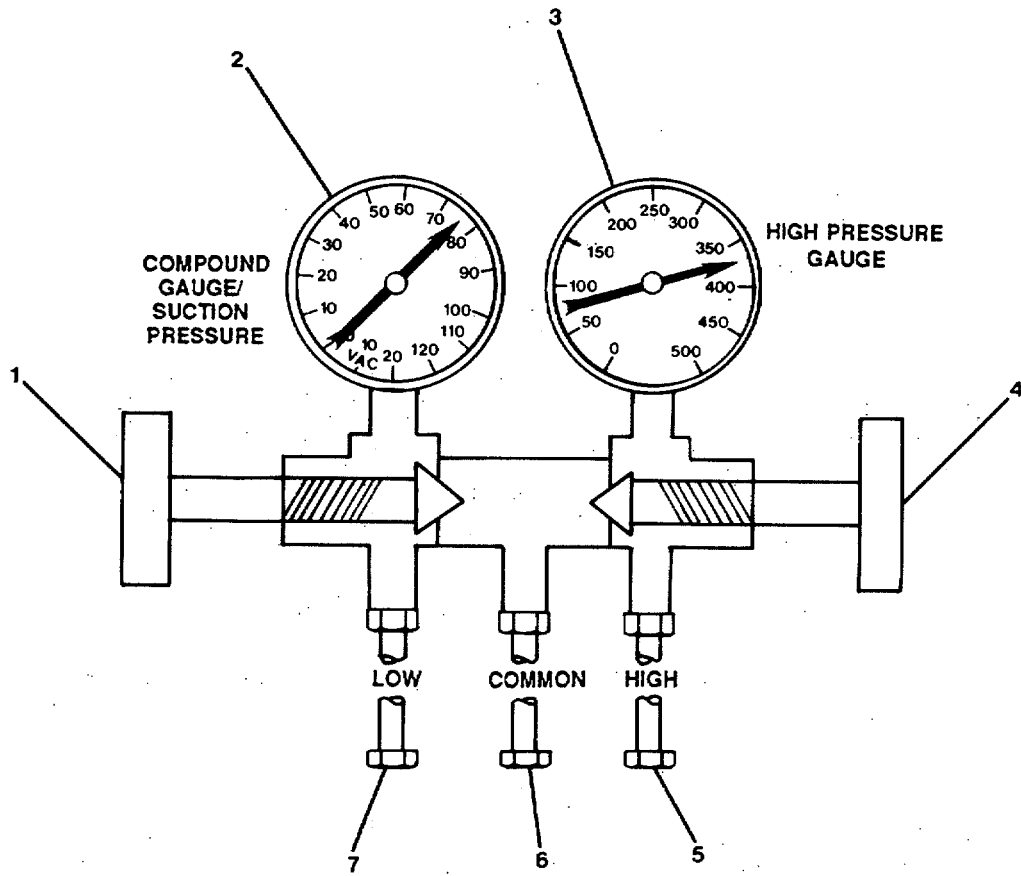
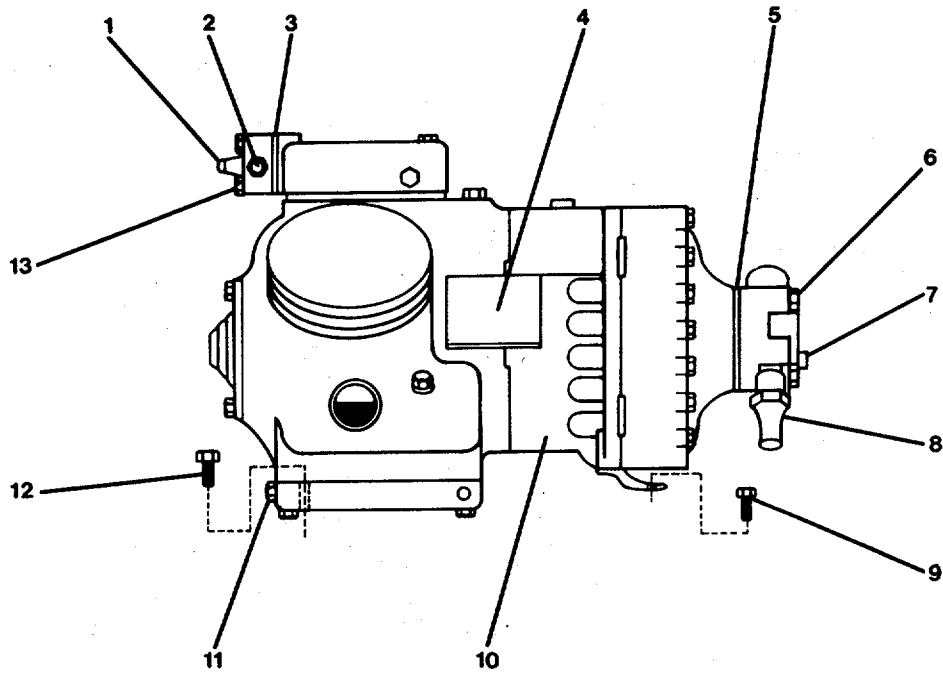
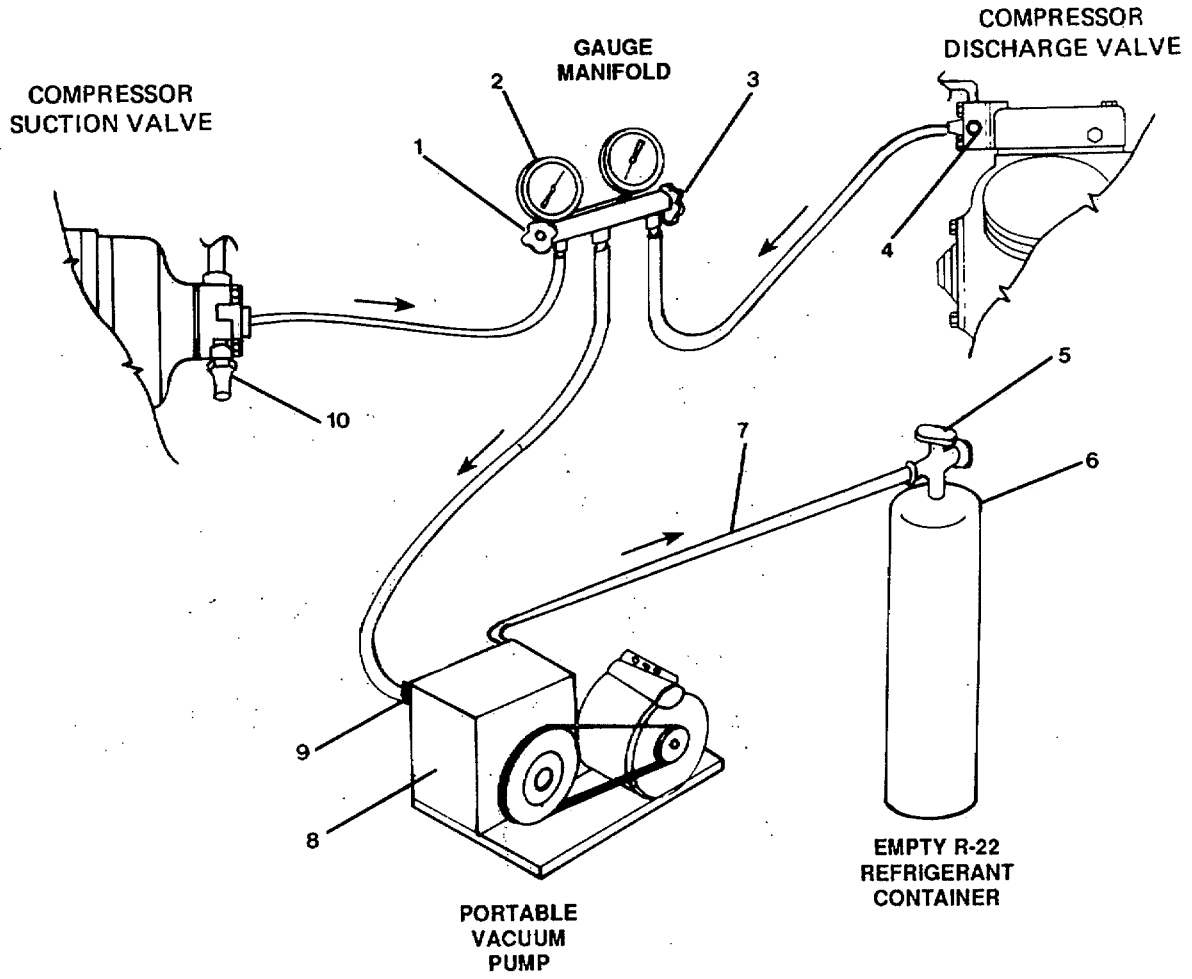

Figure 4-16. Portable Gauge Manifold.
FIGURE 4-17. Refrigeration Compressor.
Figure 4-18. *Removing Refrigerant Charge From Compressor.*
- (1) Connect a portable gauge manifold from the refrigeration tool kit to the compressor as follows (refer to FIGURES 4-16, 4-17, and 4-18):
- (a) Connect the combination gauge hose (7, FIGURE 4-16) to the gauge port connection on the compressor suction valve (7, FIGURE 4-17).
- (b) Connect the high pressure gauge (3, FIGURE 4-16) hose line (5) to the gauge port connection on the compressor discharge valve (1, FIGURE 4-17).
- (c) Connect the common hose line (6, FIGURE 4-16) to the suction connection (9, FIGURE 4-18) on a portable vacuum pump (8).
- (d) Connect the discharge line (7) of the vacuum pump to an empty R-22 refrigerant container (6). Make sure hand-wheel, gauge port, valves (1, 3) are closed by turning fully clockwise.
- (2) Remove cap (10) from suction valve and cap (4) from discharge valve for access to valve stems.
- (3) Close both suction and discharge valves by turning valve stems fully clockwise. This will isolate the compressor from the rest of the system.
- (4) Slowly open the handwheel gauge port valves (1, 3) counterclockwise 1/2 to 1 turn. This will allow the refrigerant to escape from the compressor and through the gauge manifold.
- (5) Open the valve (5) on the empty container (6) by turning counterclockwise.
- (6) Start and run the portable vacuum pump (8).
- (7) While the vacuum pump is running, watch the pressure on the combination gauge (2). When pressure has dropped to 1 or 2 psig on gauge (2), close hand wheel gauge port valves (1, 3) and stop the vacuum pump. This will leave a slight positive charge on the compressor.
- (8) If gauge pressure increases rapidly, repeat steps a.(5) through (8) above until 1 or 2 psig is maintained on combination gauge (2).
- (9) Close valve (5) on container (6) by turning fully clockwise.
- (10) Disconnect all manifold gauge hoses (5, 6, 7, FIGURE 4-16).
- (11) Disconnect vacuum pump discharge line (7, FIGURE 4-18) from container (6).
b. Disconnect suction valve (7, FIGURE 4-17) from compressor (10):
- (1) Remove four capscrews (6). The valve body will remain attached to refrigerant piping.
- (2) Remove gasket (5) and discard.